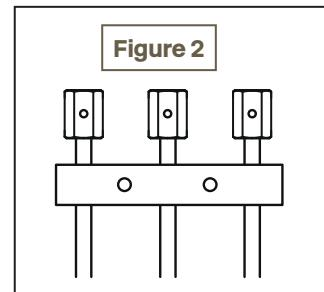

Figure 3, Swing radius of the outlet pipe
1. Unscrew the locking screw and remove the spout. **Figure 3B1**
Each segment removed increases the swing radius by 15 degrees. **Figure 3B2**
3. Thread the cut ring into the groove on the outlet spout. **Figure 3B3**
4. Reinsert the spout and ensure that the cut-out in the plastic ring sits opposite the hole for the locking screw. Push down the spout and at the same time screw in the locking screw. Now press on the cover plate. **Figure 3B4**